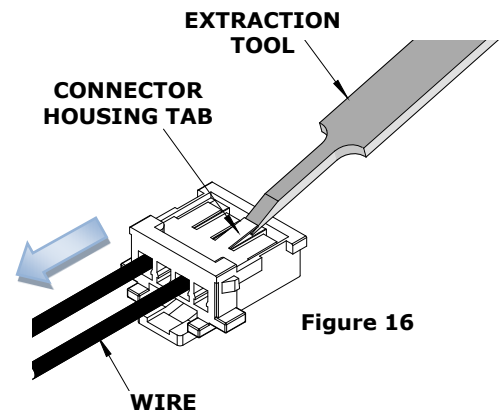

Figure 16
2. Gently lift up on the housing tab, and push the terminal back through the connector slot. While pulling the terminated wire out in the direction of the arrow. See Figure 16.